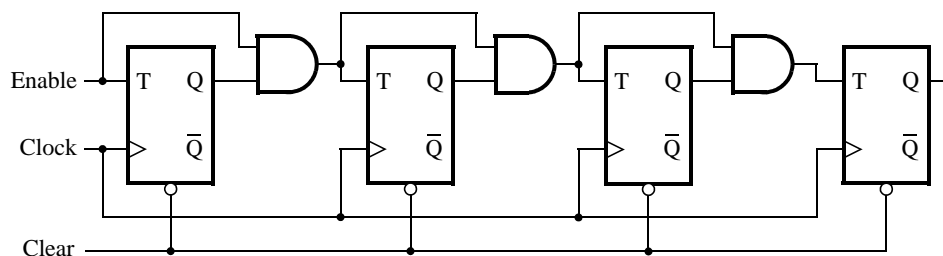

Figure 1: A 4-bit counter.
Consider the circuit in Figure 1. It is a 4-bit synchronous counter which uses four T-type flip-flops. The counter increments its value on each positive edge of the clock if the *Enable* signal is asserted. The counter is reset to 0 by setting the *Clear* signal low.
Again, consider the circuit in Figure 1. **PRELAB TODO:** You are to implement a 4-bit counter of this type.
1. Write a Verilog file that defines a 4-bit counter by using the structure depicted in Figure 1. You will want to use CLOCK\_50 as your input for the clock, which is the built-in 50MHz clock built into your DE2 pin assignments.
4. Implement a 4-bit version of your circuit and use the Quartus II RTL Viewer to see how Quartus II software synthesized your circuit. What are the differences in comparison with Figure 1?